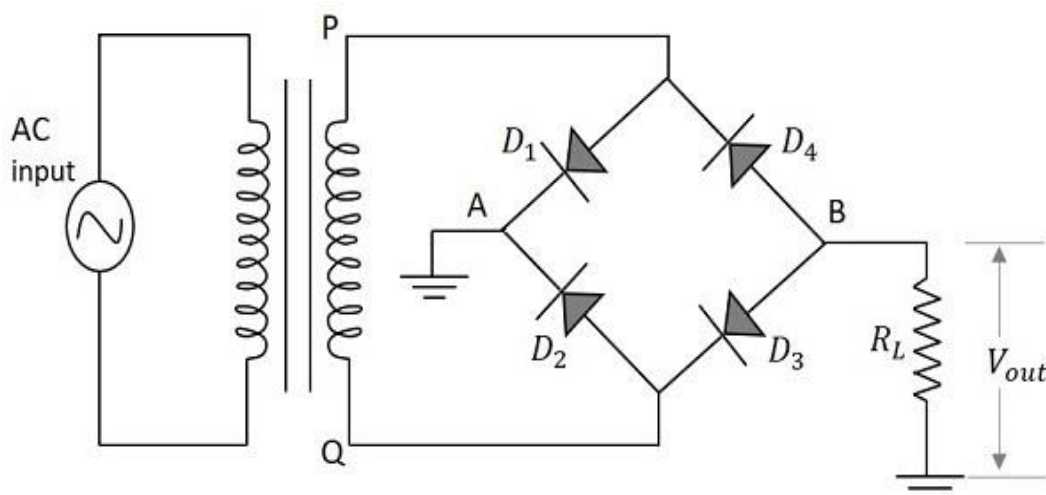

Figure 13.3: Circuit diagram of Full wave bridge Rectifier
13.3 Draw electronic circuit diagram of a Full Wave Bridge Rectifier as shown in Figure 13.3